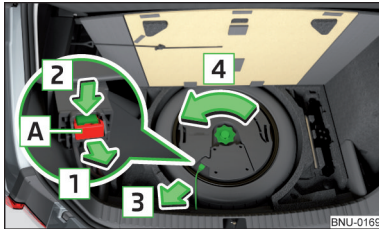

Fig. 319
- Press the latch **A** on the holder in the direction of the arrow **1** » Fig. 319.
- Tighten the locking screw in the opposite direction of arrow **4** until it stops » Fig. 319.